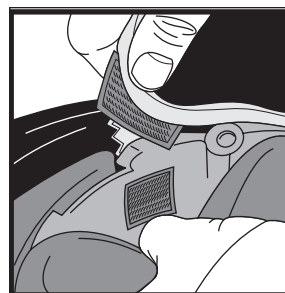

Figure 3
11. Attach the ends of the earlaps to the hook fastener in the impact cap assembly, behind the headband as shown in Figure 3.